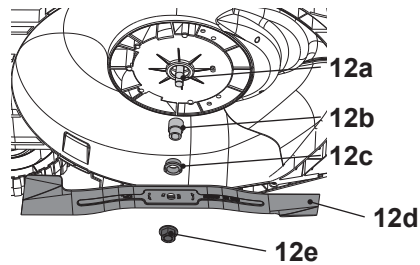

Fig. 20
1. Keep the underbody and cutting blade (12d) clean and free of debris. Remove clippings from the rear discharge chute (19).
4. Loosen the hex nut (12e) anti-clockwise using a suitable wrench (Size 17 mm) and remove it together with the cutting blade (12d) (Fig. 20).